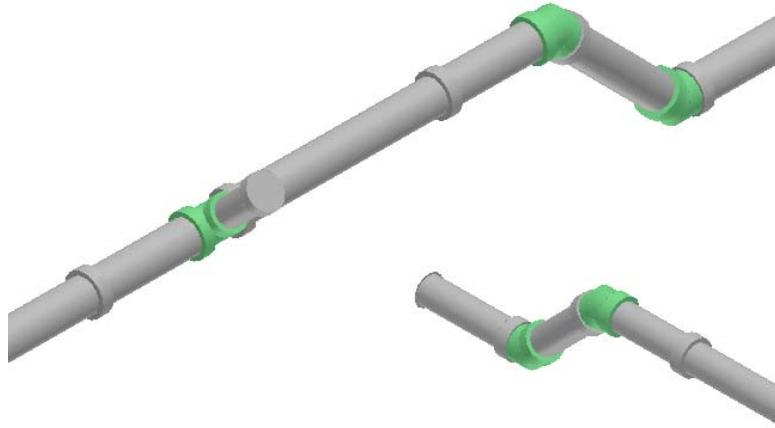

Figure 33: Placed Pipe
61. Click in the graphic view to place the data point. The system places a reducing tee and a small pipe, as shown in Figure 33. Right-click to terminate the **Route Pipe** command.